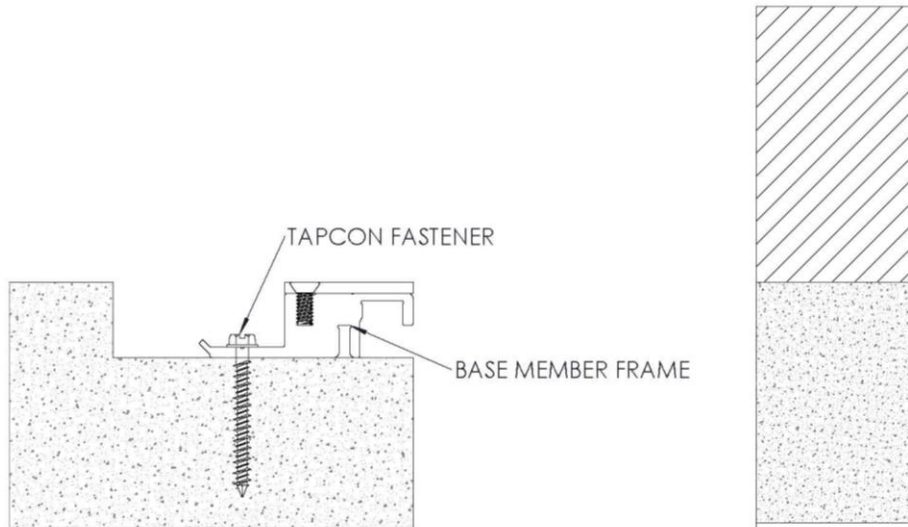

FIGURE 1
1. Position base member frame in blockout per shop drawings. Using the frame as a template, mark and drill  $5/32$ " holes for Tapcon fasteners. Install base member frame to the blockout opening with fasteners, making sure not to over tighten. **See Figure 1**